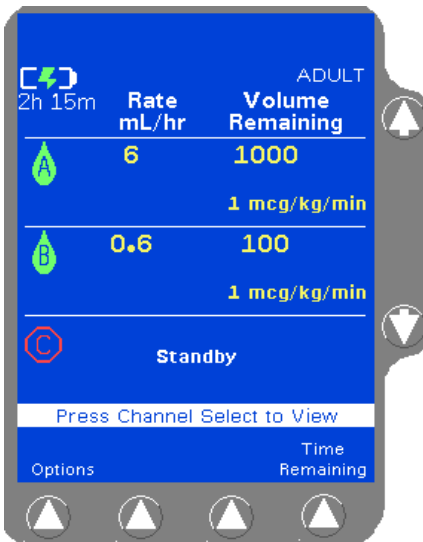

Figure 4-67 Main Display
15. Press the **START** key to begin the infusion. The Main Display screen shows the rate, volume remaining, and the dose (Figure 4-67).